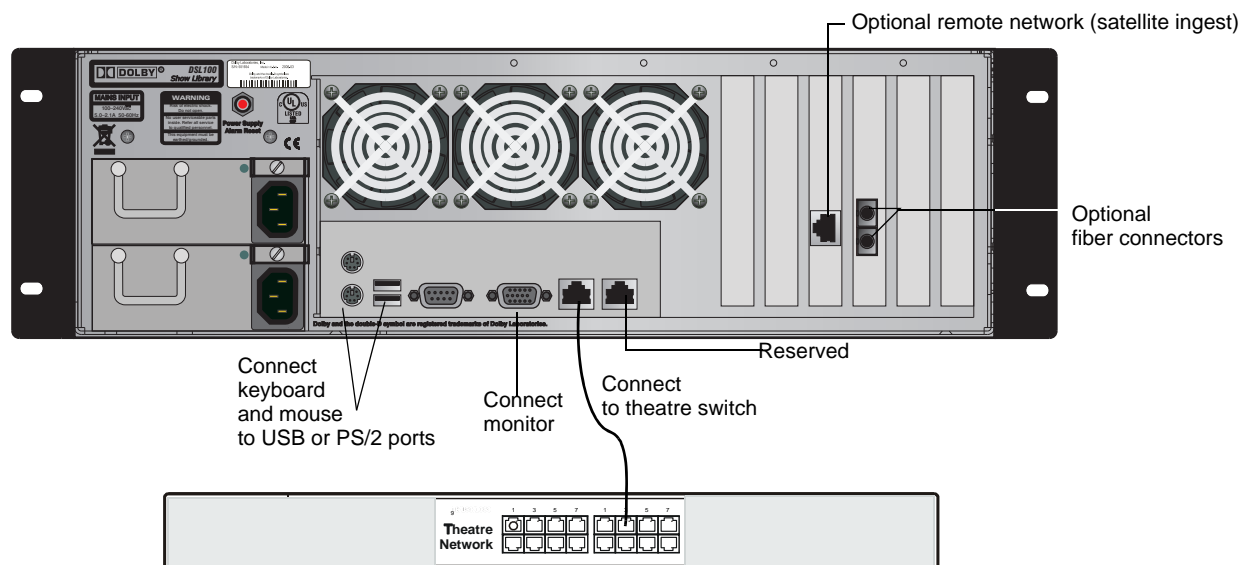

Figure 3-16 Connecting the DSL100 to the Theatre Network
1. Connect a USB or PS/2 keyboard and mouse to the respective ports on the DSL100 rear panel, as shown in Figure 3-16.